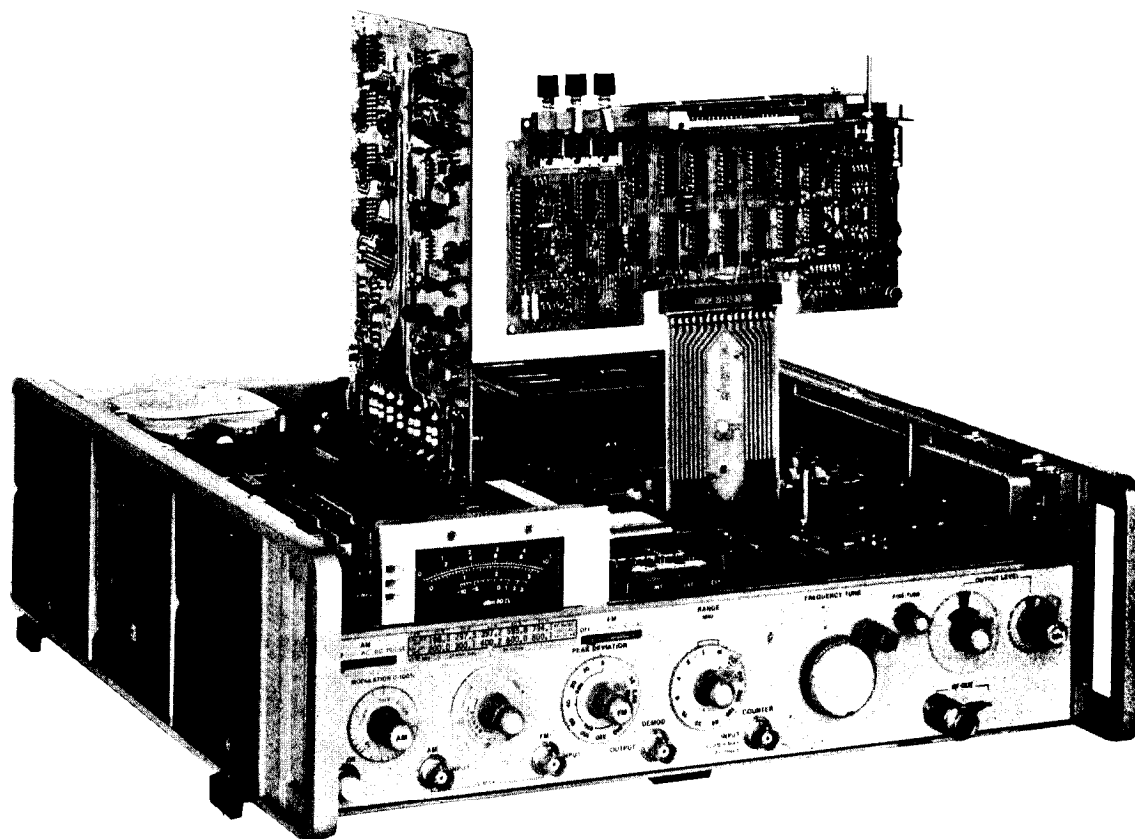

Figure 8-1. Signal Generator with Circuit Boards on Extenders
**8-18. Extender Board.** An extender board is supplied with the generator that can be used to extend all circuit boards (except the A10A2 RF Divider Assembly and the A12 Rectifier Assembly) that are not accessible by removing a casting cover. The RF Divider Assembly is self-extending - just remove the riser board and insert the RF Divider Assembly into the riser's slot. Figure 8-1 shows the extender board in use and the RF Divider Assembly extended.